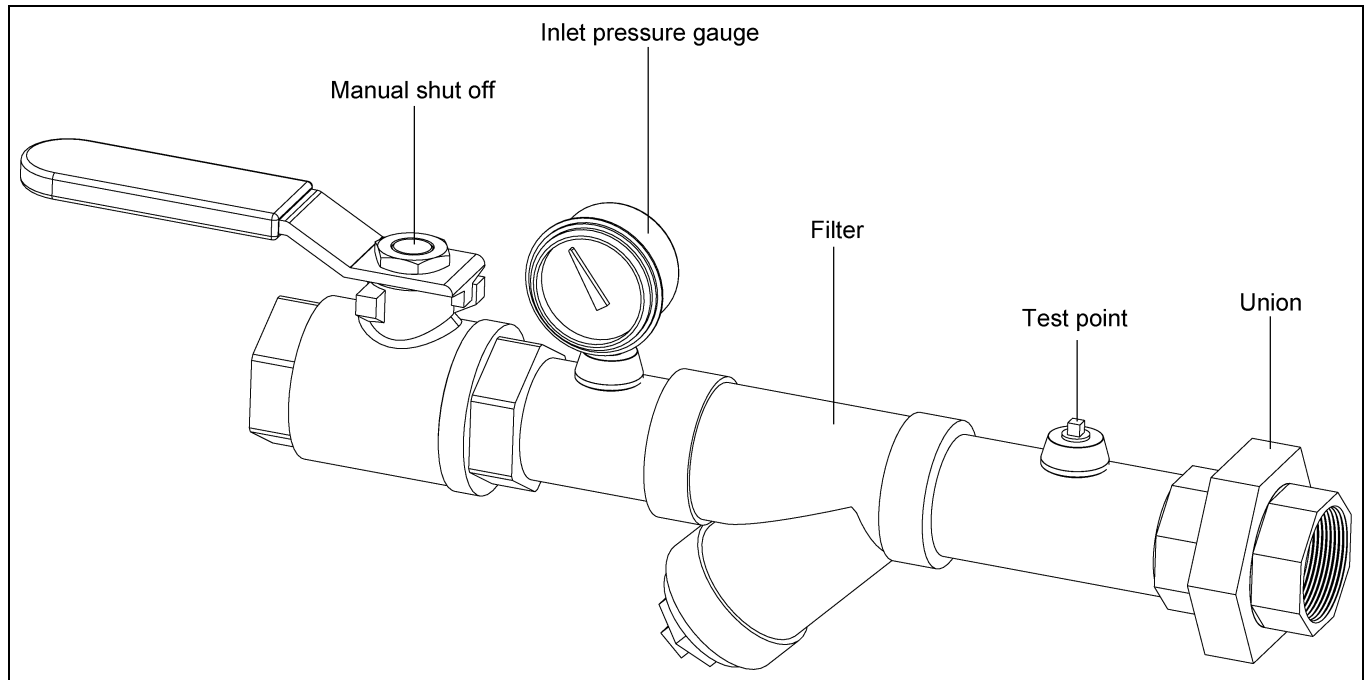

Figure 3B
1. Pressure from supply read at inlet gauge. (See Figure 3B on Page 17.)
- a. Close inlet valve. (See Figure 3B on Page 17.)